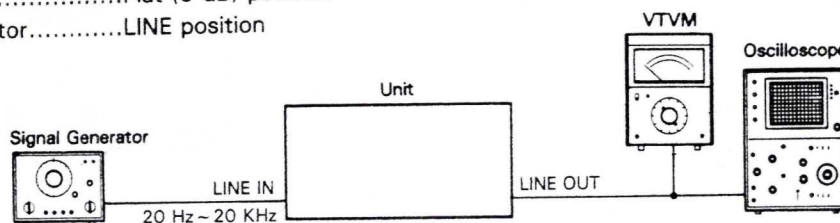

Fig. 3
1. Connect the test equipments to the unit as shown in Fig. 3